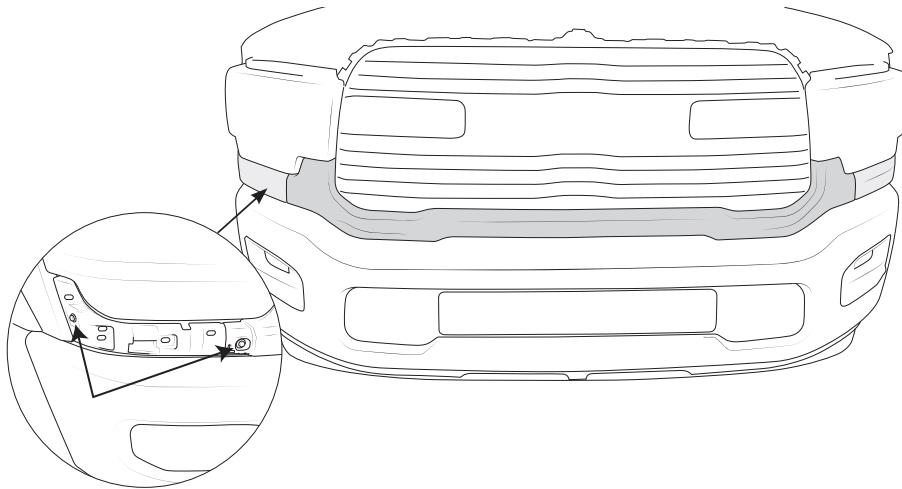

Figure 3
- B. The center section has 7 bolts securing it to the grille (these will need to be loosened from below the vehicle but not fully removed) from underneath the vehicle, and 2 bolts below each headlamp (these need to be fully removed)(fig. 3).